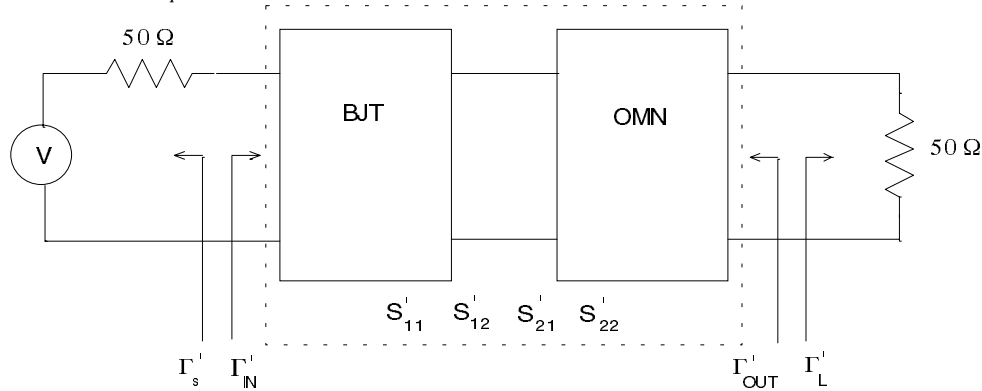

Figure 10: G_p test circuit
Figure 10 is the schematic used to determine G_p . Notice that the IMN circuit is not included in the overall circuit. The equation for the operating power gain is:
- Create a new test circuit that corresponds to the schematic in Figure 10 (use S-ports for the source and load impedances). If you want to, just modify the Amp_Gp circuit by omitting the IMN subcircuit. You should add equations to the circuit page to calculate G'_p . For consistency, use the equation variable name Gpp_dB for the calculated G'_p value in decibels.